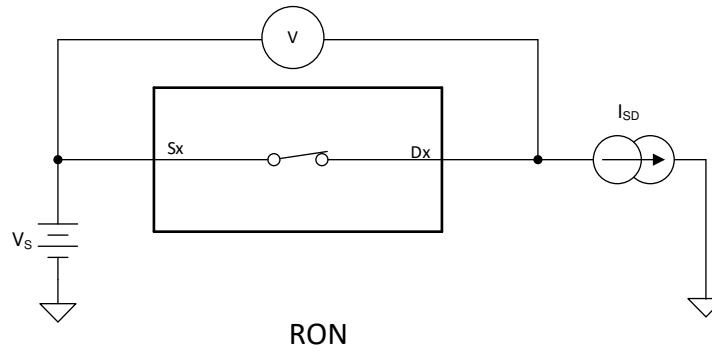

Figure 8-1. On-Resistance Measurement Setup
The on-resistance of a device is the ohmic resistance between the source (Sx) and drain (Dx) pins of the device. The on-resistance varies with input voltage and supply voltage. The symbol  $R_{ON}$  is used to denote on-resistance. Figure 8-1 shows the measurement setup used to measure  $R_{ON}$ . Voltage (V) and current ( $I_{SD}$ ) are measured using this setup, and  $R_{ON}$  is computed with  $R_{ON} = V / I_{SD}$ :